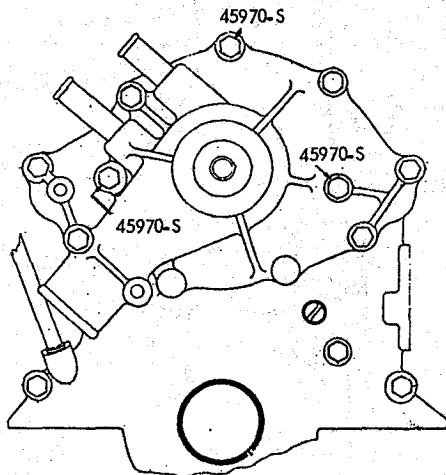

Figure 9 - (Article 517)
2. Three bolts will be different than the present bolts used on the aluminum pump. They are pointed out in Fig. 9. The part number is 45970-S or a 5/16 - 18 x 1 1/2 hex head bolt and lock washer may be used.